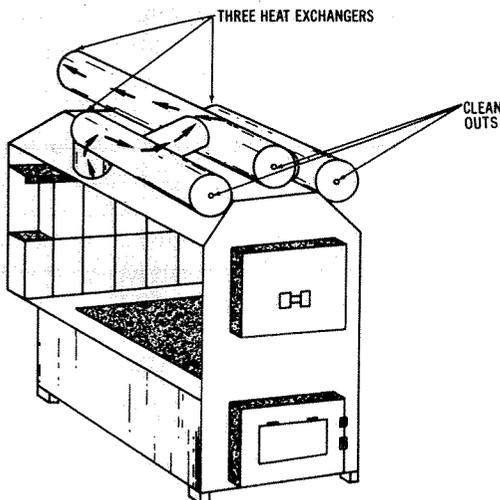

Fig. 82. Ray-Mask wood-burning furnace.
15. **The Liter Knot** (dealer), Springs Rd. at County Home Rd., Hickory, NC 28601. The Ray-Mask wood-burning furnace (Fig. 82) is firebrick-lined and has three heat exchangers. The smoke goes up at rear of furnace and into heat exchangers on both sides; it then travels to front of each lateral heat exchanger, up to center heat exchanger, and then to the flue. Exchangers have cleanout caps for easy access. Standard equipment includes Dayton blower assembly, damper motor assembly, fan-and-limit switch, and thermostat control. Optional features are "draft-o-stat," air-conditioning coils with remote condensing unit, and electric-heat package for standby heat.